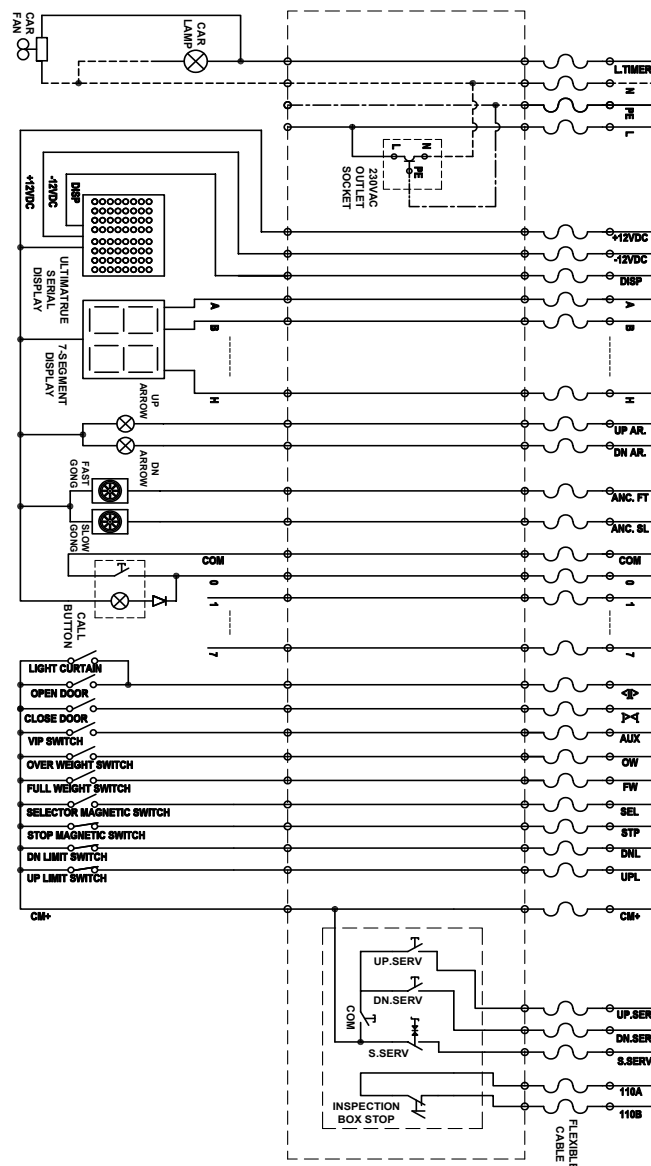

Figure 16.0 - Car Connections
The terminals of the Car are connected as illustrated in Figure 16.0.
- Figure 16.0 illustrates the connection of the traveling cable terminals between the main control panel and the car for calls, indicators, inspection box, etc.